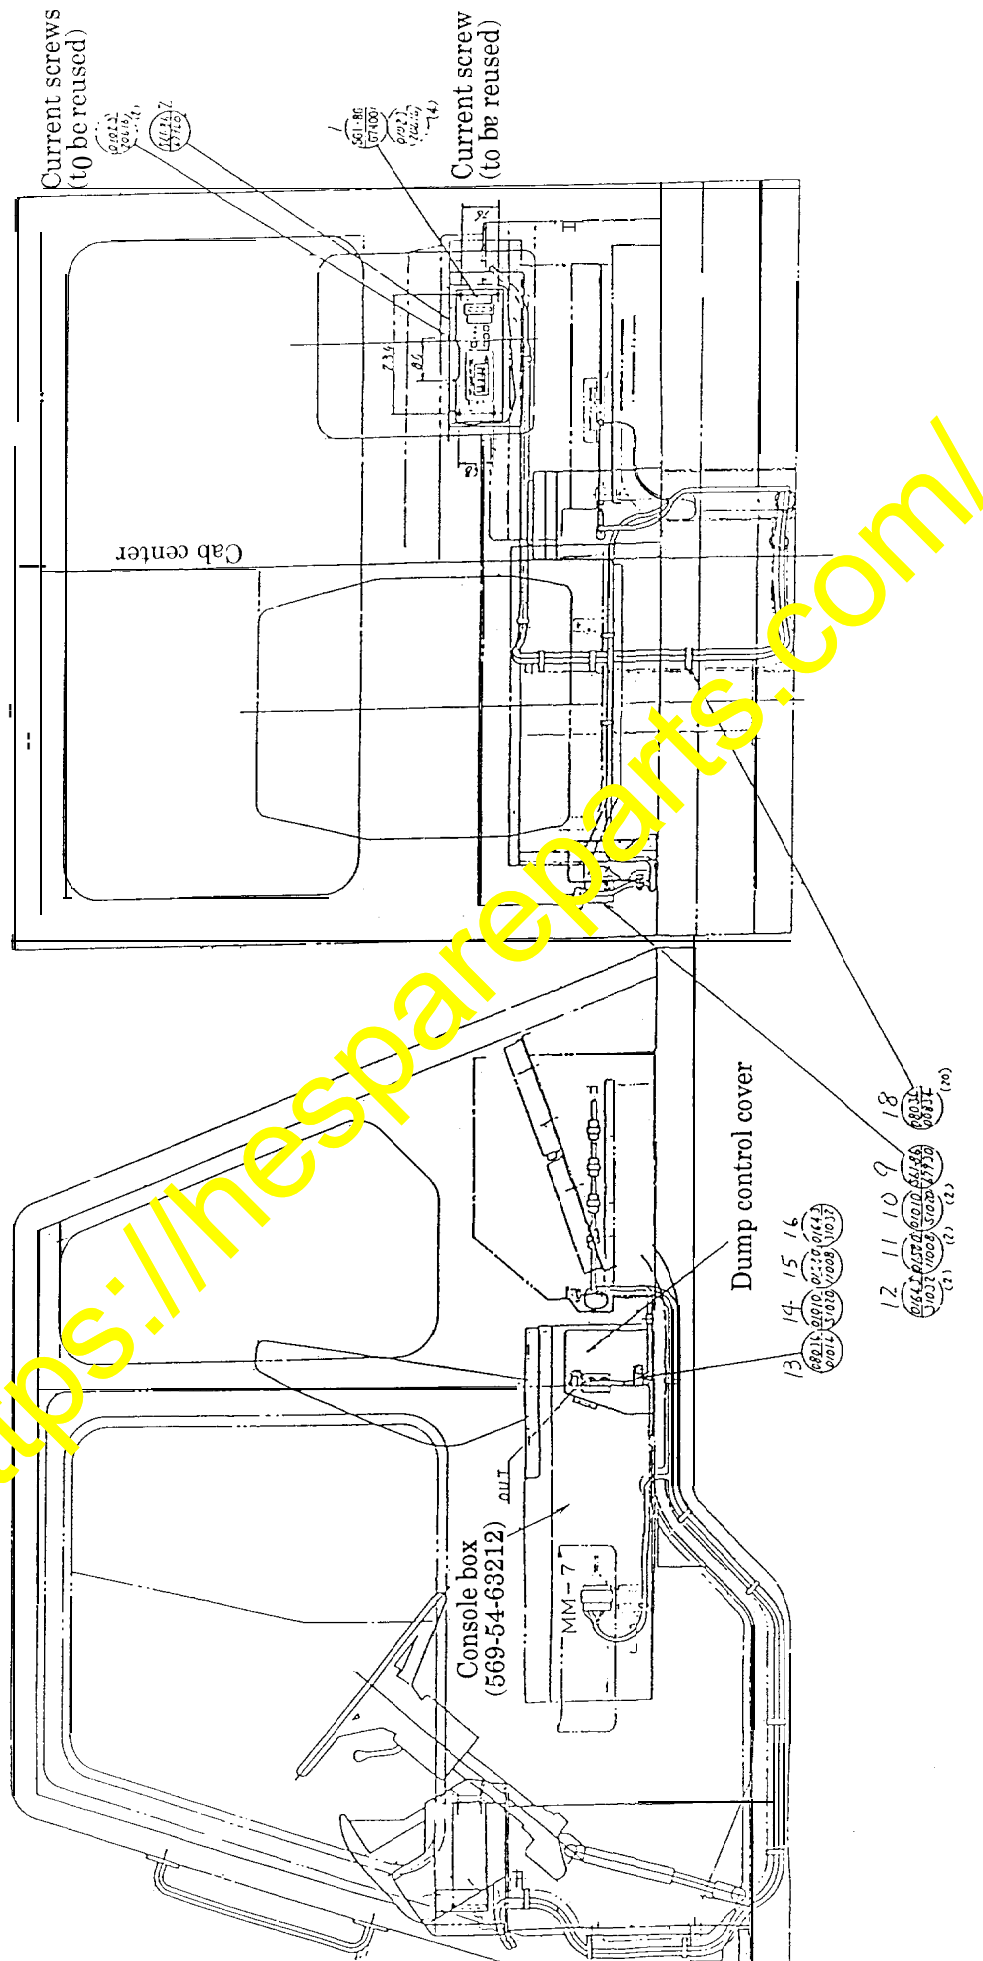

Fig. 4 Assembly drawing (Left side view & Right side view)
- (2) Install a newly prepared bracket (2) (561-86-67960) and set the dashboard cover in place. (See Fig. 4.)
3.4 Wiring (See Figs. 4 thru 6.)
3.5 Installation of the control box (See Figs. 4 thru 6.)